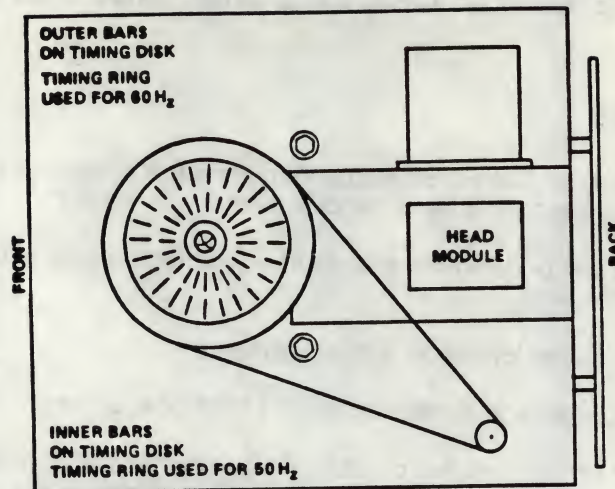

Figure 2-1
2.1.1.5 Observe the speed disk on the spindle pulley under fluorescent lighting (see Figure 2-1).